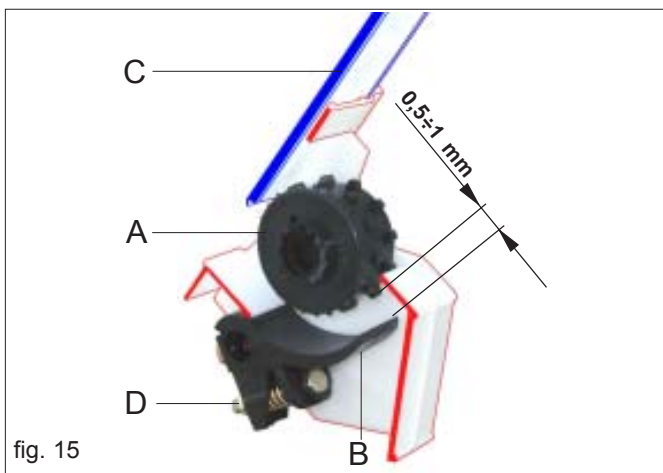
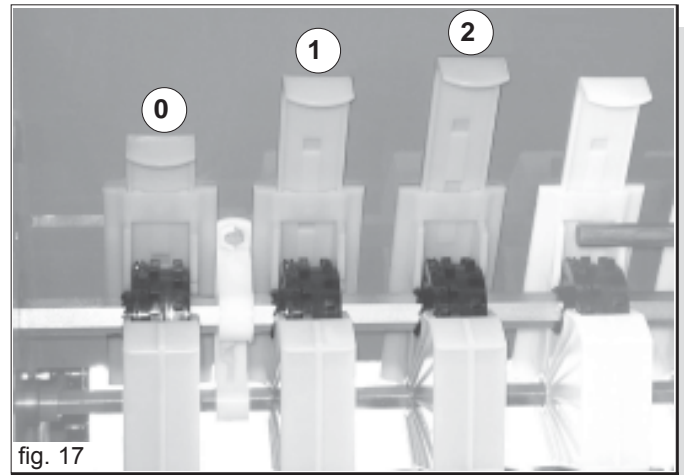

fig. 15
fig. 17
If the feelers (B Fig. 15) are correctly positioned, they assure a fluid and constant distribution of the seeds.
For best seeding results, periodically check the position of the feeler pins (B): adjust the distance between the feeler and the distributor veller (A) by means of the nut (D) to 0,5 ÷ 1 mm (Fig. 15).
The most appropriate type of seed distributor roller must be selected prior to sowing on the basis of the type of seed being planted (A Fig. 15). The machine is fitted with rollers for small, medium and large seeds. Select the type of distributing roller according to the information given in Table 4 (page 40). Which is selected by inserting the key supplied (Fig. 16) into the slot on the left side of the roller and push the drag retainer all the way out. Pefferom the a.m. operation in inverse order to return the roller to its initial position.
The discharge mouth closing blades (C Fig. 15) for the discharging of the seeds from the hopper, have **three adjustment positions** (Fig. 17):
The seeding depth is adjusted simultaneously for all planting devices through a crank (Fig. 17). By rotating it counterclockwise, a stronger pressure can be exerted on the planting devices to the ground by means of the extension springs, thus allowing deeper seeding.